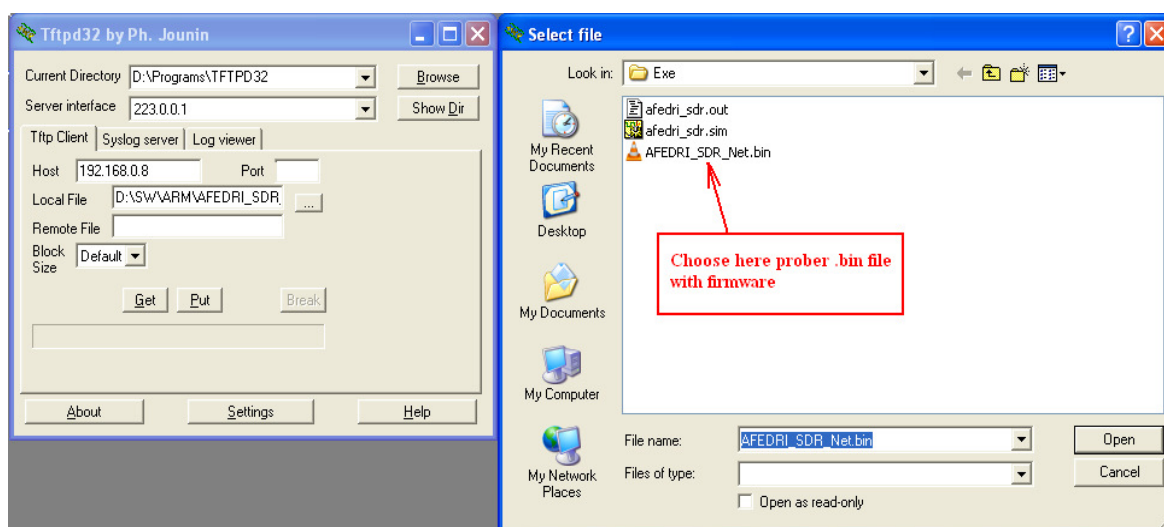

Figure 10 Tftpd32 utility, “Select File” dialog
3.1.7. To choose firmware file (it has .bin extension), press button “Local File” and find firmware file in “Select file” dialog that is appearing after the button was pressed. (see **Figure.10**)